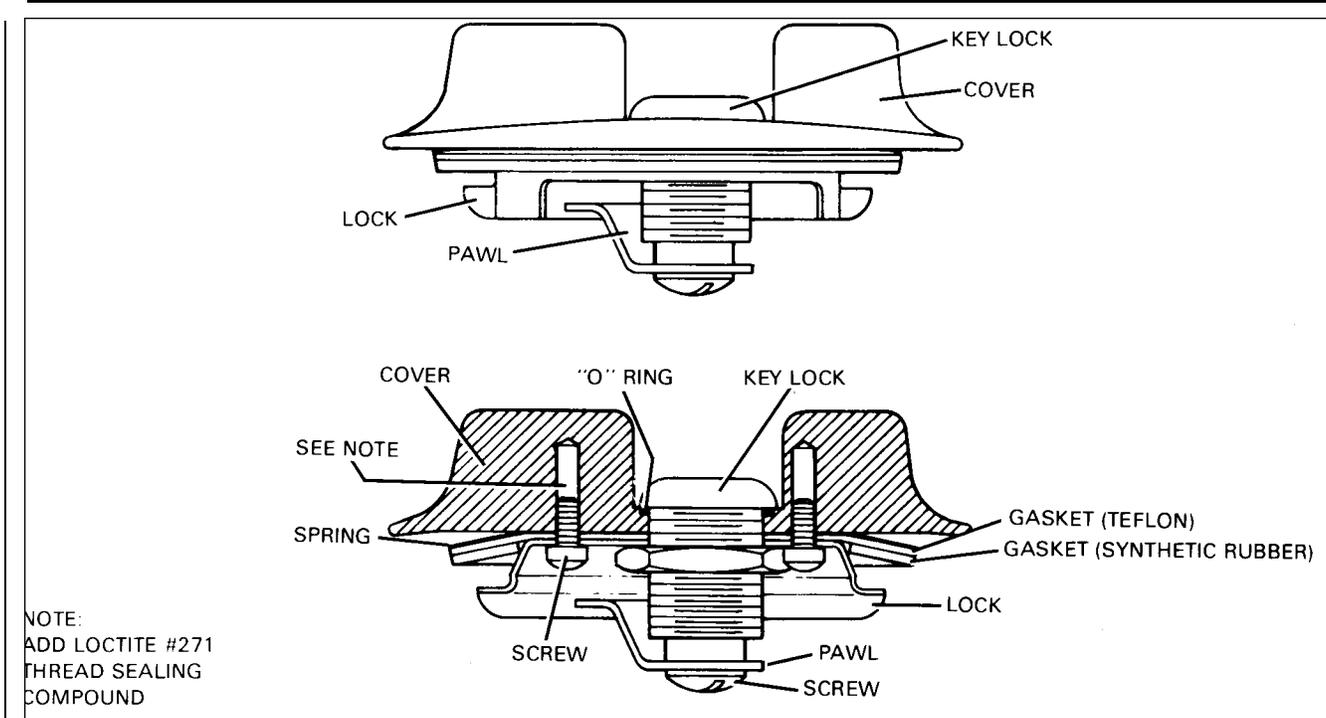

Figure 28-4. Locking Fuel Cap Assembly
**DISASSEMBLY OF LOCKING FUEL CAP.** (Refer to Figure 28-4.)